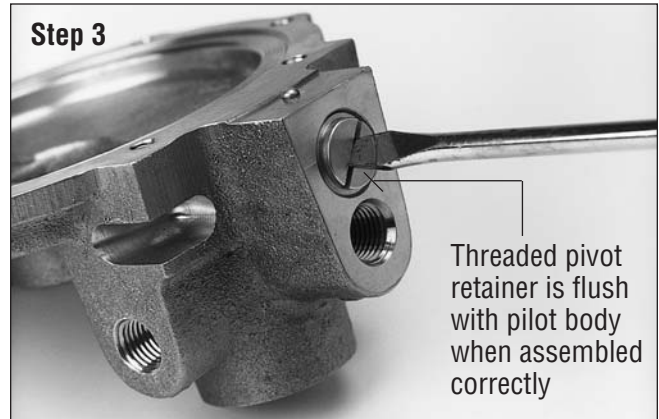

Figure 24 - Screw the Retainer Plug firmly into place.
3. Screw the threaded Pivot Retainer onto the Pilot Body to hold the Pivot & Lever Assembly in place. The Pivot Retainer should be flush with the Pilot Body when installed correctly (refer to Figure 24).